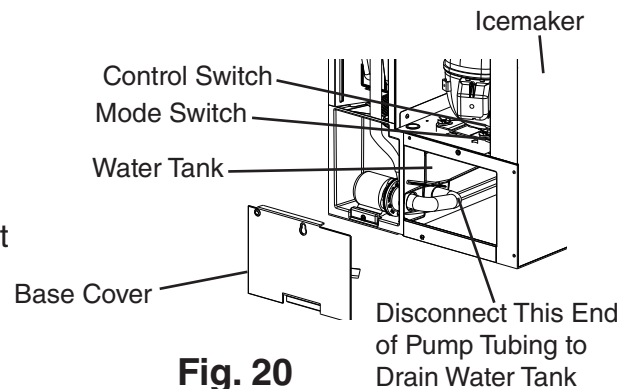

Fig. 20
12) Move the control switch to the "OFF" position, then remove the base cover and disconnect the rear pump tubing connection to drain the water tank. See Fig. 20.